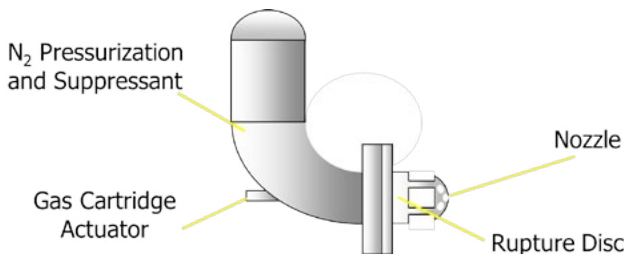

Figure 5. Suppressors are pressurized with nitrogen and fitted with a rupture disc or diaphragm that's opened by a contained explosive charge.
*Suppressors.* Suppressors or extinguishers are typically available in a range of volumes from 2.5 to 50 L and are mounted outside of the equipment on a flange. They are usually pressurized with nitrogen to 900 PSIG (6,200 kPa) and are fitted with a rupture disc or diaphragm that's opened by a contained explosive charge (see Figure 5).